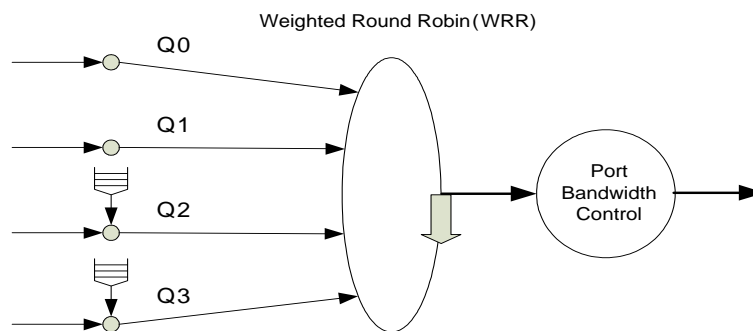

Figure 17. Packet-Scheduling Diagram
- Type I leaky bucket, which specifies the average rate of one queue (see Figure 17; only Q2 and Q3 have leaky bucket, Q0 and Q1 do not). The queue rate can be configured from 0kbps to the line rate in steps of 64kbps
In addition, the RTL8309M-VB can select one of the two sets of packet-scheduling configurations according to the packet-scheduling mode. Figure 17 shows the RTL8309M-VB packet-scheduling diagram.